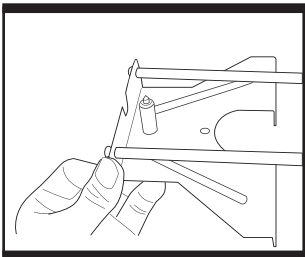
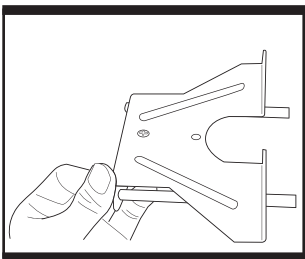

Fig. 9
Fig. 10
7. FITTING THE CENTRING PIN AND MAKING CIRCULAR CUTS (See Fig. 9 & Fig. 10)